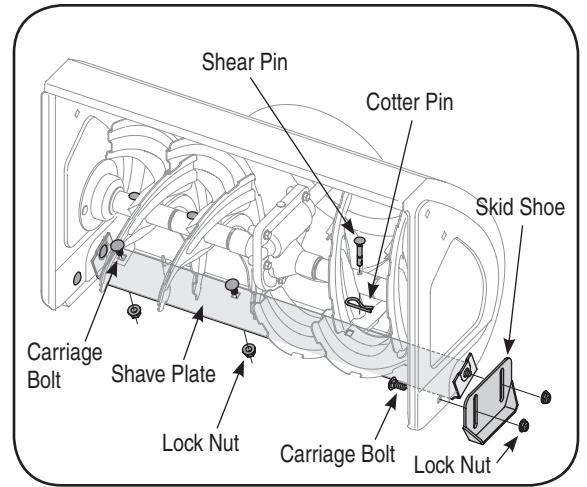

Figure 9
1. To replace, remove two carriage bolts and nuts securing each skid shoe to the auger housing, See Figure 9.
3. **To remove shave plate:** Remove both skid shoes and hardware including carriage bolts and nuts which attach shave plate to the snow thrower housing. For location of shave plate, see Figure 9.
The augers are secured to the spiral shaft with four shear pins and cotter pins. If you hit a foreign object or ice jam, the snow thrower is designed so that the pins may shear. Refer to Figure 9.